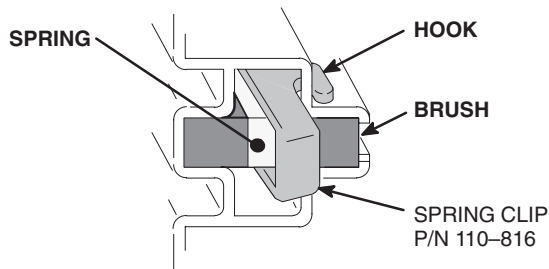

Fig. 12 01227
3. Push in the spring clip to release its hooks from the brush holder. Pull out the spring clip. See Fig. 12.